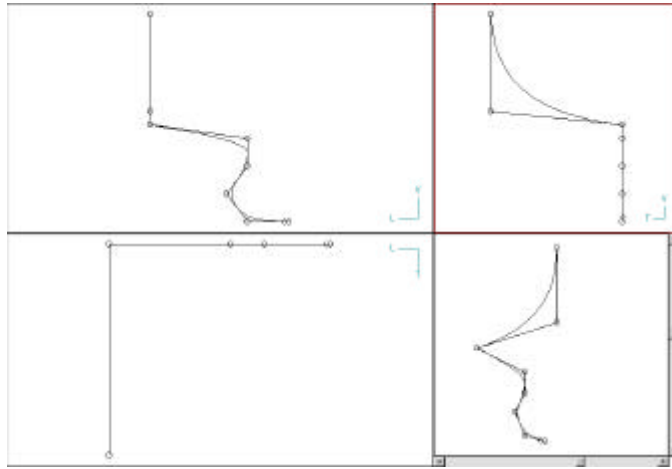

Figure 2-17: Creating the Stern Curve
7. In Front view (or Back view) move vertices six and seven outboard to form the transom. (See Figure 2-17.)